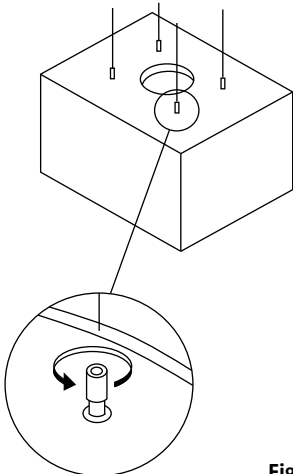

Fig 9
7. Unscrew holder from the Medea (Fig 9).